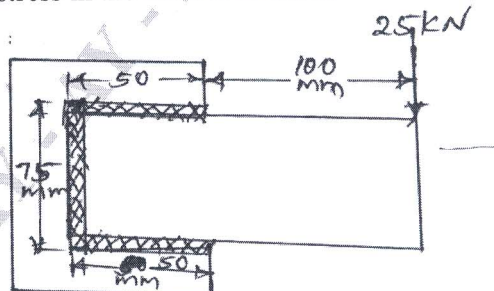

Fig. Q8 (b)
b. Determine the size of weld required for an eccentrically loaded weld joint as shown in Fig. Q8 (b). The allowable stress in the weld is 75 MPa. (14 Marks)